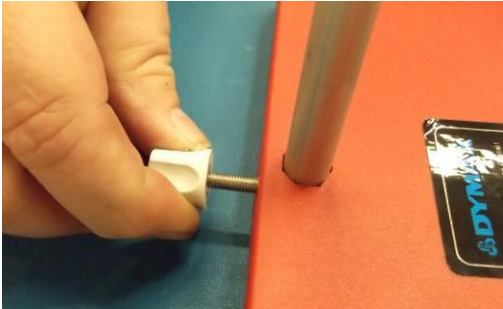

Figure 6. Install the Rod and Tighten the Thumbscrew
5. Place the Rod from Step 3 into the hole in the Base (D) and retighten the Thumbscrew (Figure 6).